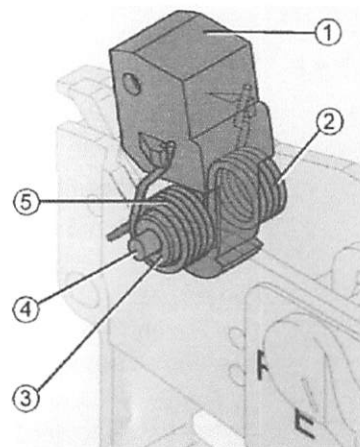

Fig. 55 Assembly position of hammer springs
- ⇒ Place hammer springs (Fig. 55/2 and 5) over hammer lugs (Fig. 55/3 and 5), as shown in Fig. 55.
**Do not yet place the hammer springs (Fig. 55/2 and 3) into the seat on the pistol grip, on the right of the hammer.**
- ⇒ Insert the cylindrical pin (Fig. 55/4) and push it in until it is even on both sides.
- ⇒ Engage hammer spring (Fig. 55/5) into lug on hammer.